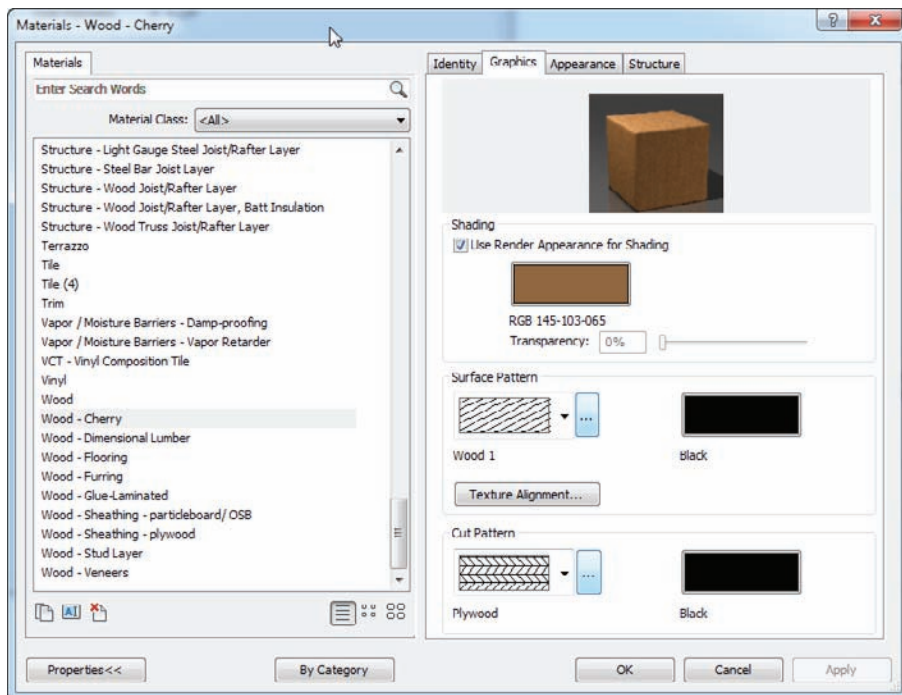

FIGURE 9.20 Selecting and configuring the material for the ceiling
13. To the right of the Materials dialog box, click the Graphics tab, as shown in Figure 9.20.